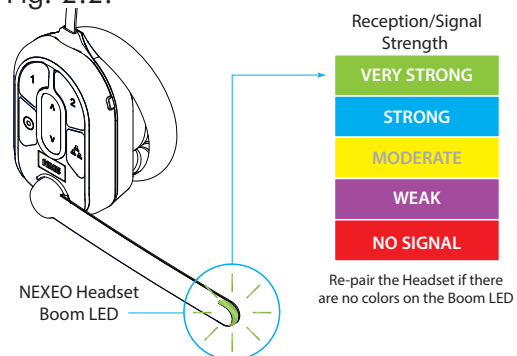

Fig. 2.2
- 10 **Critical Step:** The Installation Wizard prompts you to use a paired headset switched into Reception Location Mode. You will need to walk all areas of the store where the headset will be used to ensure a good and continuous signal. The Boom LED at the tip of the Headset microphone flashes different colors to indicate areas with strong or weak reception. This color-coded range is shown in Fig. 2.2.